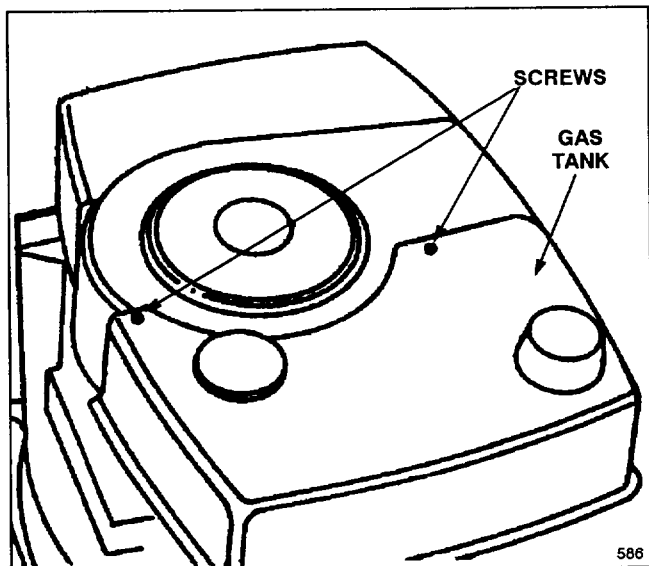

Figure 3
2. Remove the oil dipstick (Fig. 3).
3. Remove (2) screws securing gas tank to engine (Fig. 3).